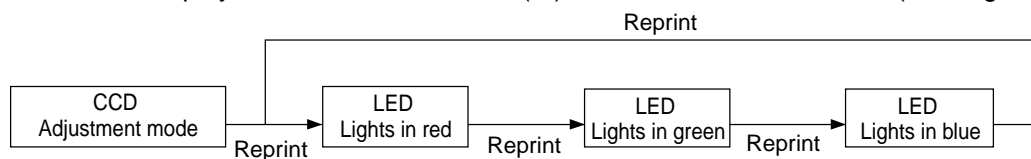

Fig. 4 Adjustment mode sequence
3. The light-source LED lights in red when you press the Reprint button. After that, LED repeatedly lights in green, blue, and red during "additional print". The numeric LED displays the saturation amount (%) of a waveform at that time. (See Figure 4.)